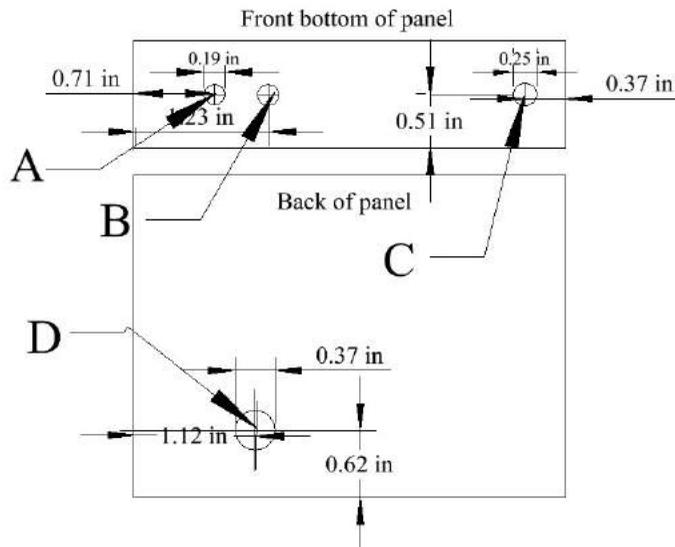

Figure 3-10: Front and bottom of the Regulated Power Supply enclosure
3. Drill holes for the output binders and 3.5 mm jack on the front of the case, as shown in Figure 3-10.